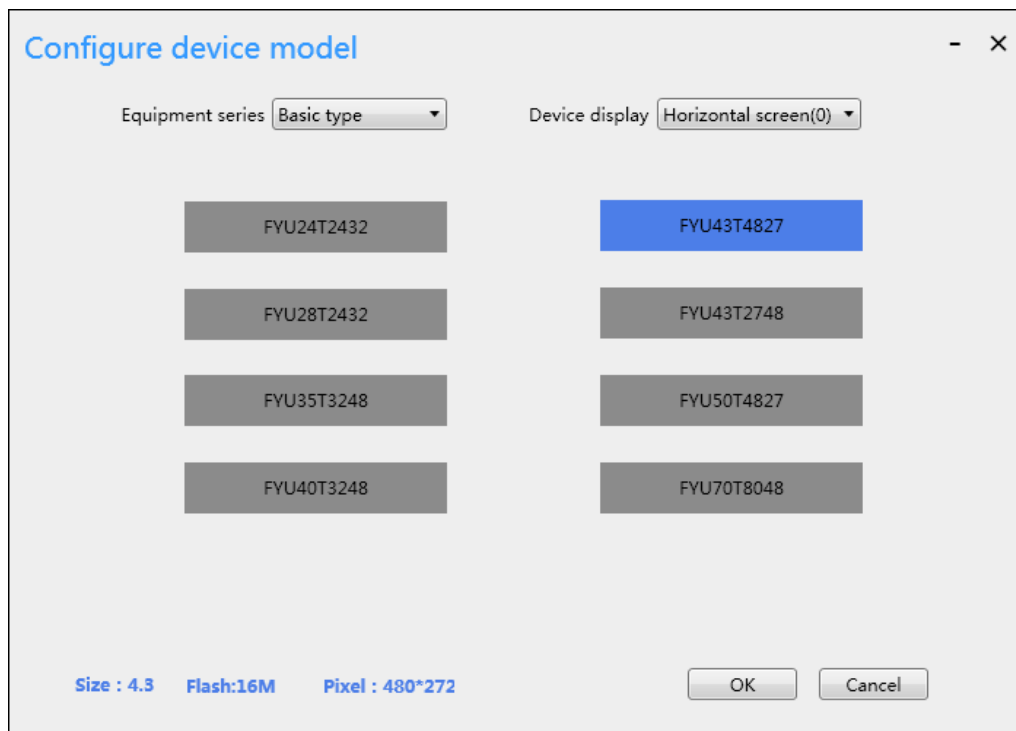

Figure 4-5
- 2) Step 2: Set the model for the LCD. The model should be the same as the LCD model used. Here, the device series selects "Basic", the device display is set to landscape, and the model selection is "FYU43T4827", as shown in Figure 4-5. As shown; click the "confirm" button after the selection is complete. Enter the main interface (Note: You can select "Tools" -> "Project Configuration" in the toolbar to open the configuration device model interface, modify the device model selected by the project)